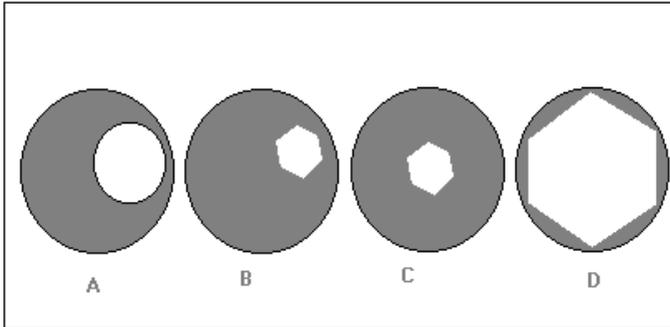

Figure 1
- B. With a specimen in sharp focus and the analyser in the "out" position using the 10x objective, close the field diaphragm until it impinges on the field of view, Figure 1, Picture A.
- C. Focus the condenser using the side mounted rack and pinion controls until the leaves of the diaphragm are in sharp focus, Figure 1, Picture B.
- D. Using the condenser centration controls move the diaphragm into the centre of the field of view, it may help to open it until it is nearly touching the outside of the field to attain perfect centration, Figure 1, Pictures C & D.
- F. Fully open the condenser diaphragm and then slowly close it until you see the contrast within the image increase. If you then remove an eyepiece and look directly down the tube from a distance of 20-30cm you should see an image similar to picture D in Figure 1. The aim here is to have the "bright" area occupying approximately 70% of the total field. The amount it occupies will change dependant on the objective lens in use. If you have set up the instrument using the 10x objective (recommended) then as you increase the magnification this diaphragm will need opening to optimise the contrast and resolution. Often it is set for the objective which is either most frequently used or most critical in terms of resolution and left in that position